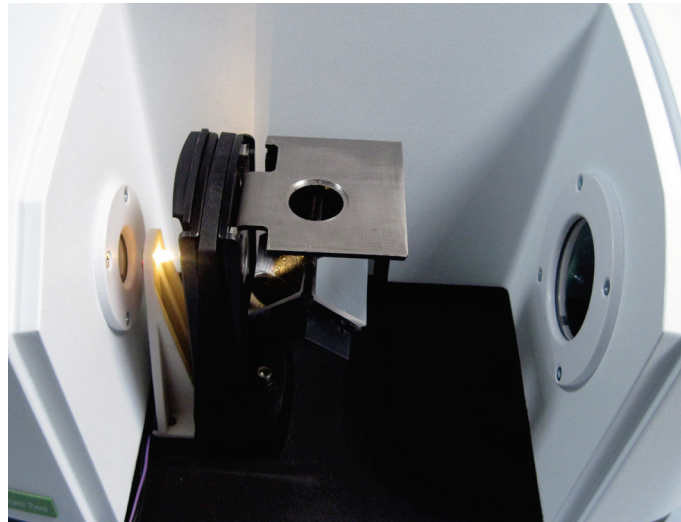

Figure 8 Accessory and alignment tool installed in the Spectrum Two sample compartment
3. Ensure that the sample slide is installed in position 2 on the baseplate (Figure 8).